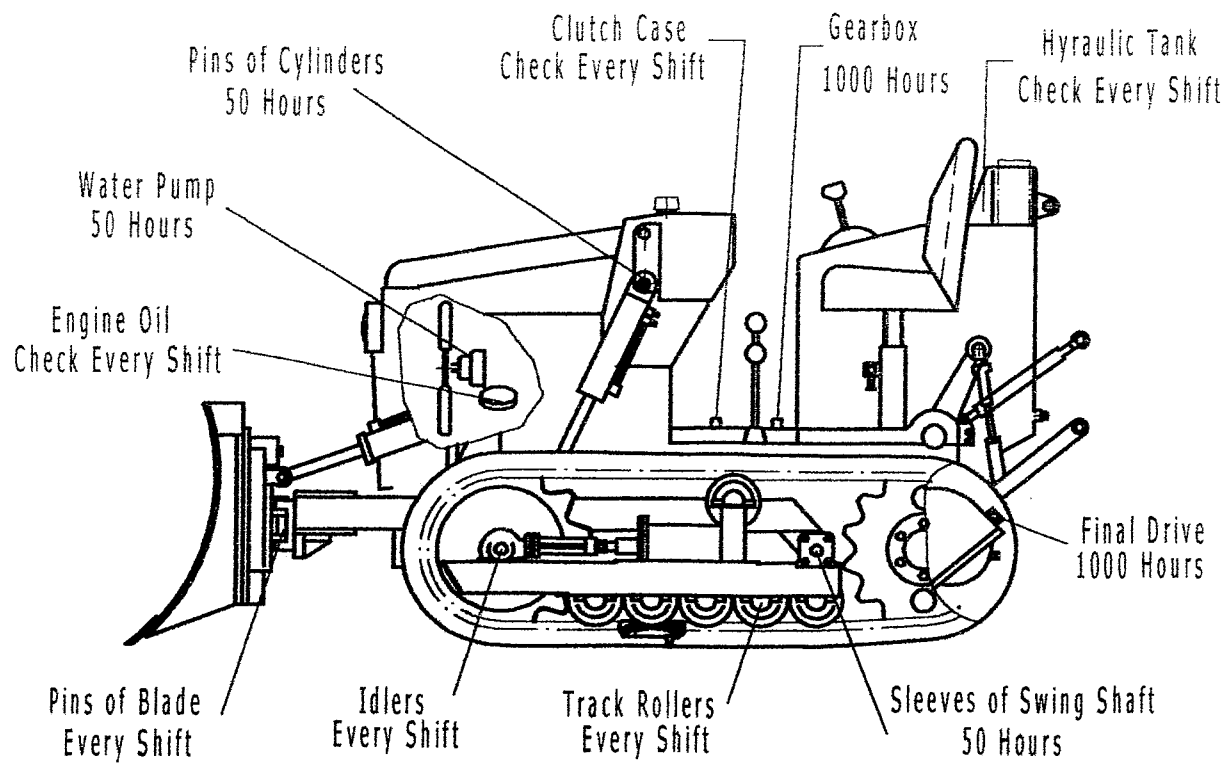

Fig.12 Lubrication Points
- ✓ Lubricate all points as shown in Figure 12.